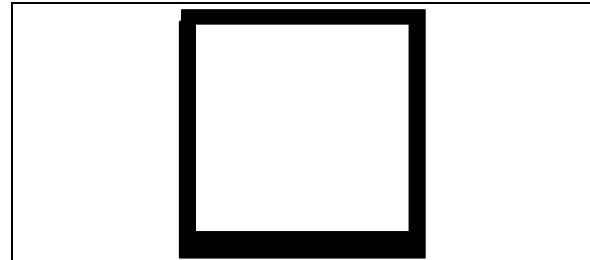

FIGURE 42 : SIDE PANEL INSTALLATION – SIKA 206 G+P APPLICATION
3. Apply Sika 206 G+P on the side panel as shown in FIGURE 42;